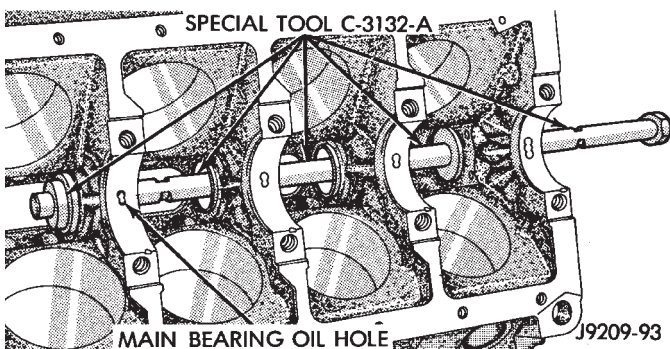

Fig. 32 Camshaft Bearings Removal/Installation with Tool C-3132-A
- (1) With engine completely disassembled, drive out rear cam bearing core hole plug.
- (2) Install proper size adapters and horseshoe washers (part of Camshaft Bearing Remover/Installer Tool C-3132-A) at back of each bearing shell. Drive out bearing shells (Fig. 32).